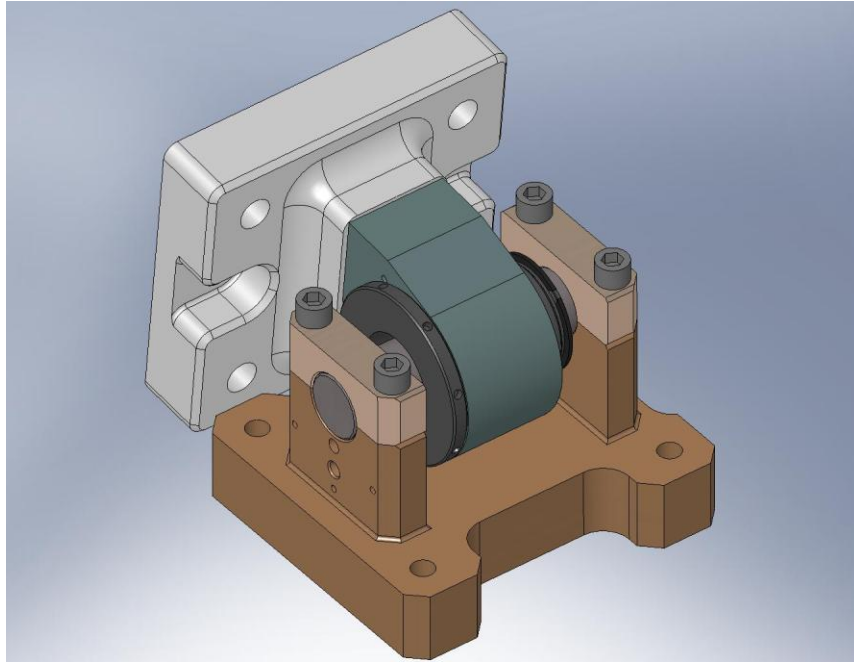

Figure 2.18. Kinematic Lock Caps clamped over the ends of the Spherical Pin.
- Place (2) **Kinematic Lock Caps** (20007936-2) over the ends of the **Spherical Pin**, orienting them as shown in Figure 2.18. Start the screws into the **Kinematic Lock Base**.